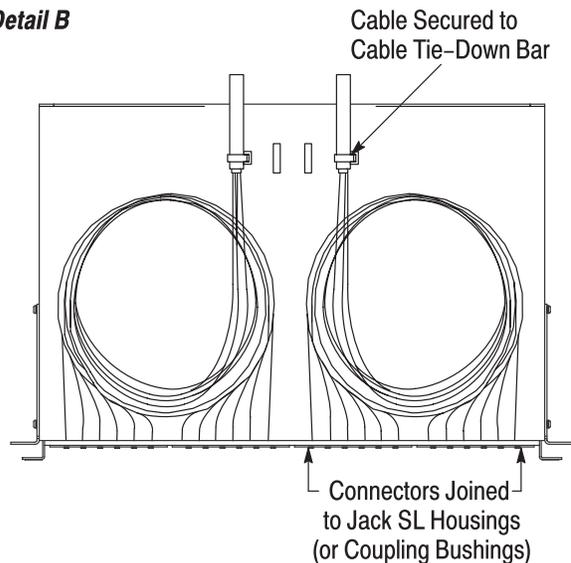

Figure 5
4. Join the connectors to the jack SL housings (or coupling bushings) at the back of the interface housings (and/or cassettes). See Figure 5, Detail A.
6. Join the connectors to the jack SL housings (or coupling bushings) at the back of the interface housings (and/or cassettes). See Figure 5, Detail B.